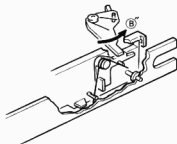

Fig. 3.
If **TIMER STAND BY** is set up when the lever is positioned as shown in Fig. 3, the lever once moves in the direction (B)'' after the time set by **TIMER SET**, and the lever locks the reset arm and releases the **STAND BY** condition.